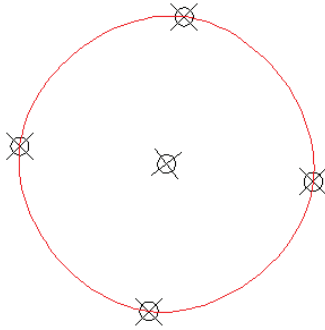

FIGURE 5.16 Snapping spline fit points to point objects
2. Expand the Draw panel, and click the Spline Fit tool at the top left. Toggle on Object Snap mode in the status bar (with Node snap on), and click the top point, the point on the right, the bottom, and then the one on the left. Type **C** (for Close), and press Enter. The fit curve looks very much like a circle, although it is not perfectly round (see Figure 5.16). This will be the start of an abstract tree representation.